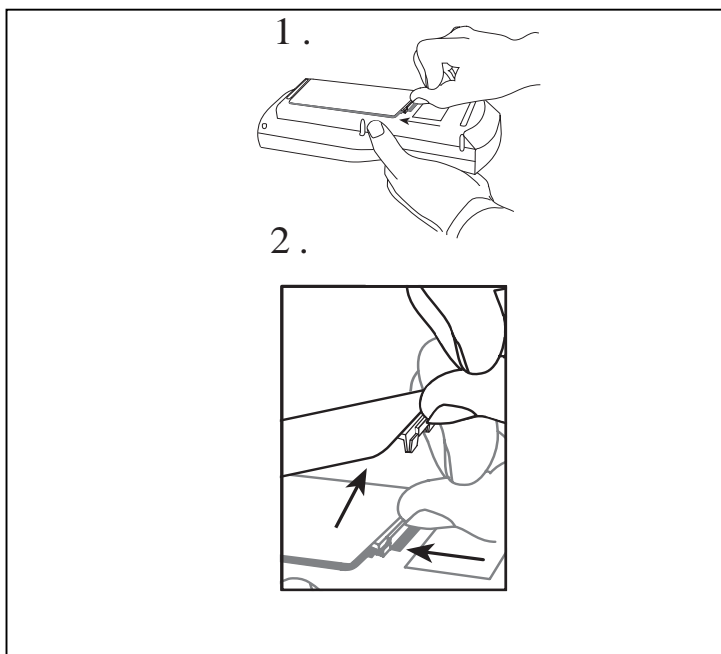

Figure 1-5. Battery Replacement
1. Remove the battery compartment cover, located on the back of the instrument (refer to Figure1-5).